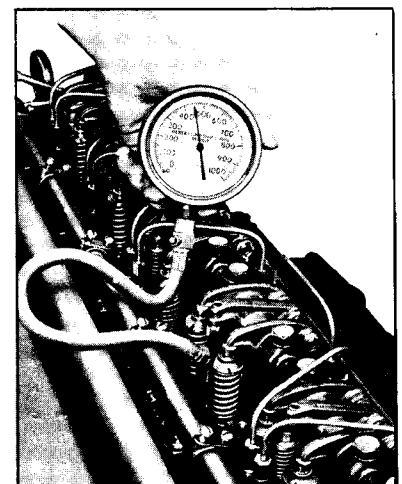

Fig. 3—Checking Compression Pressure.
- (g) If the installation of the new injector does not eliminate the misfiring, the compression pressure of the cylinder in question should be checked. This may be done with Tool J 1319-A, as illustrated in Fig. 3.
(c) Remove the injector from No. 1 cylinder (see "Injector Service" in Sec. 2) and install the pressure gauge adapter in its place, in the same manner as when installing an injector (see Fig. 3).